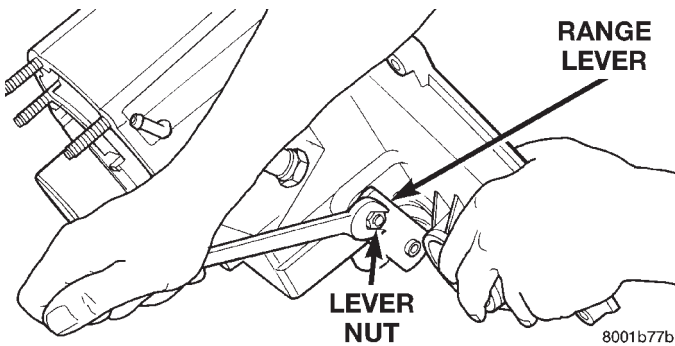

Fig. 59 Range Lever Installation
(3) Install range lever, washer, and nut on sector shaft (Fig. 59). Tighten range lever nut to 27–34 N.m (20–25 ft. lbs.) torque.